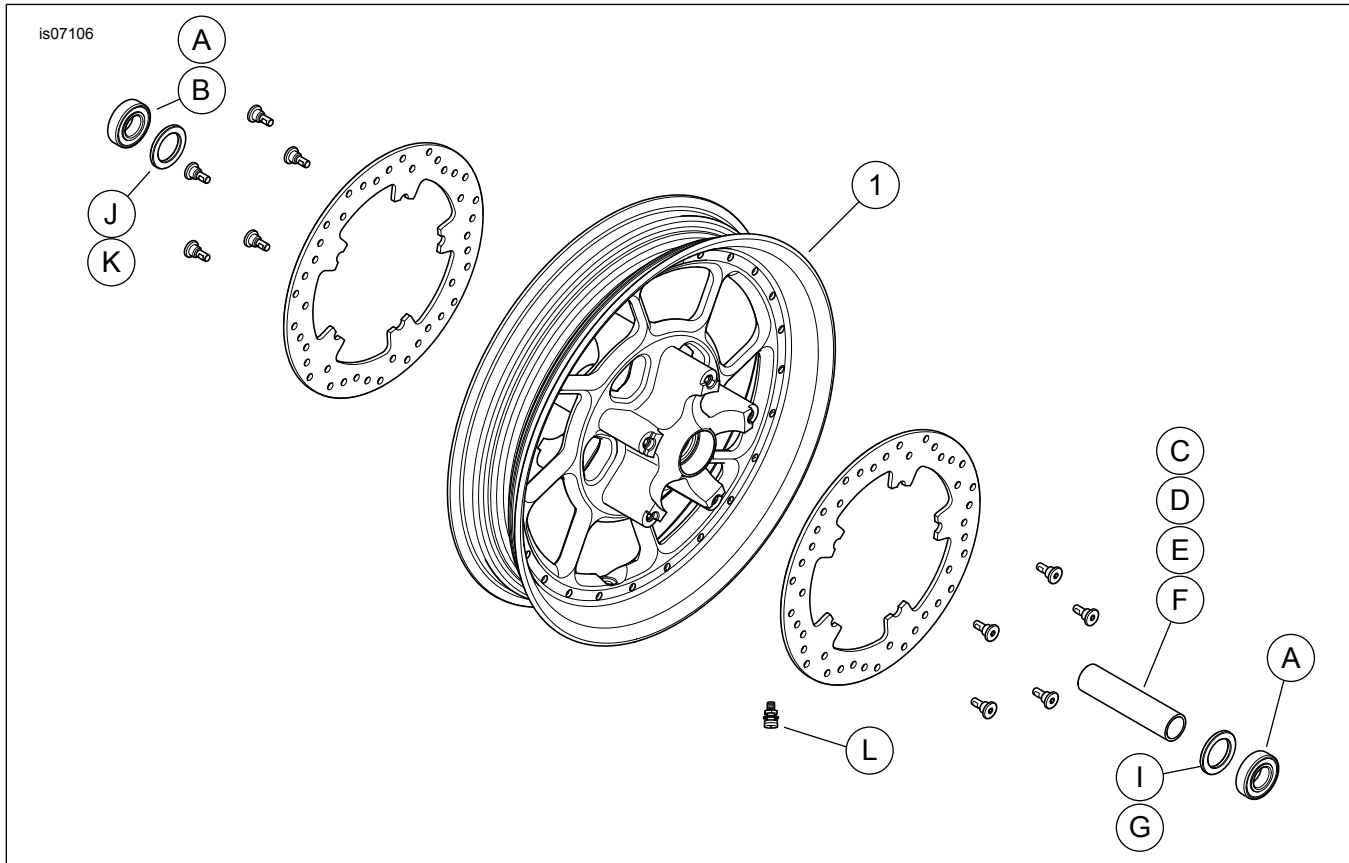

Figure 1. Service Parts: Road Winder Front Wheel Kits
2. See Figure 1. Install valve stem assembly (L ) on wheel. Refer to TIRES in service manual.